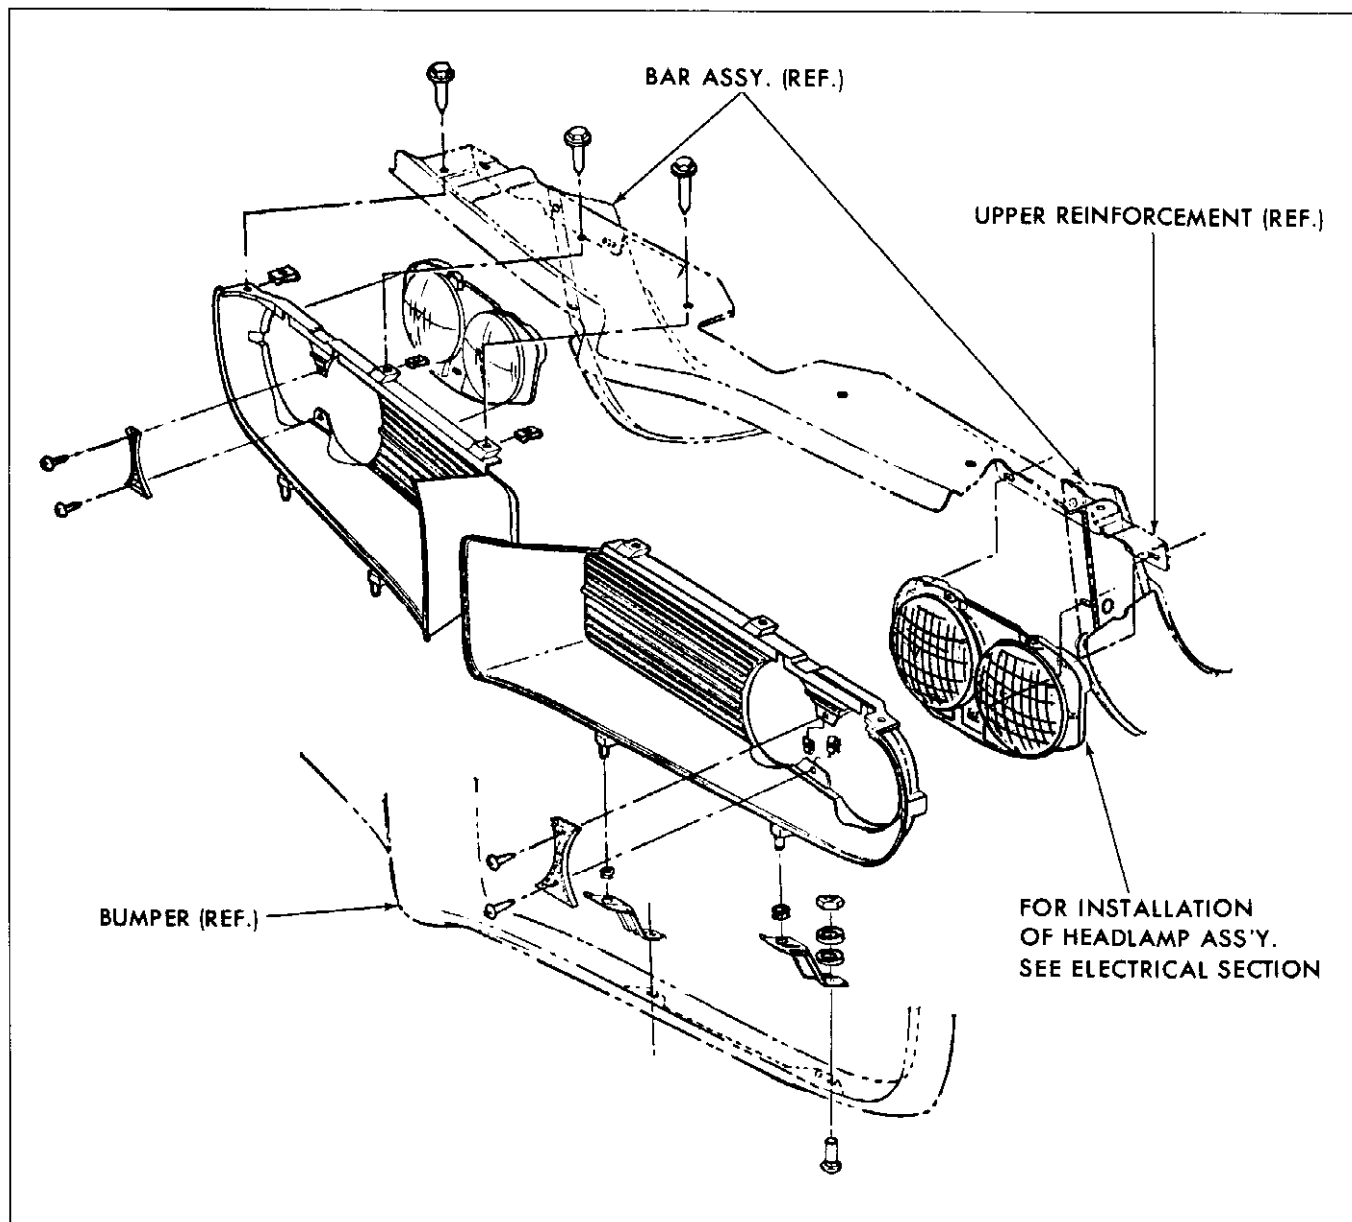

Fig. 11-4 Grille Assembly
3. Remove grille shell (Fig. 11-4).